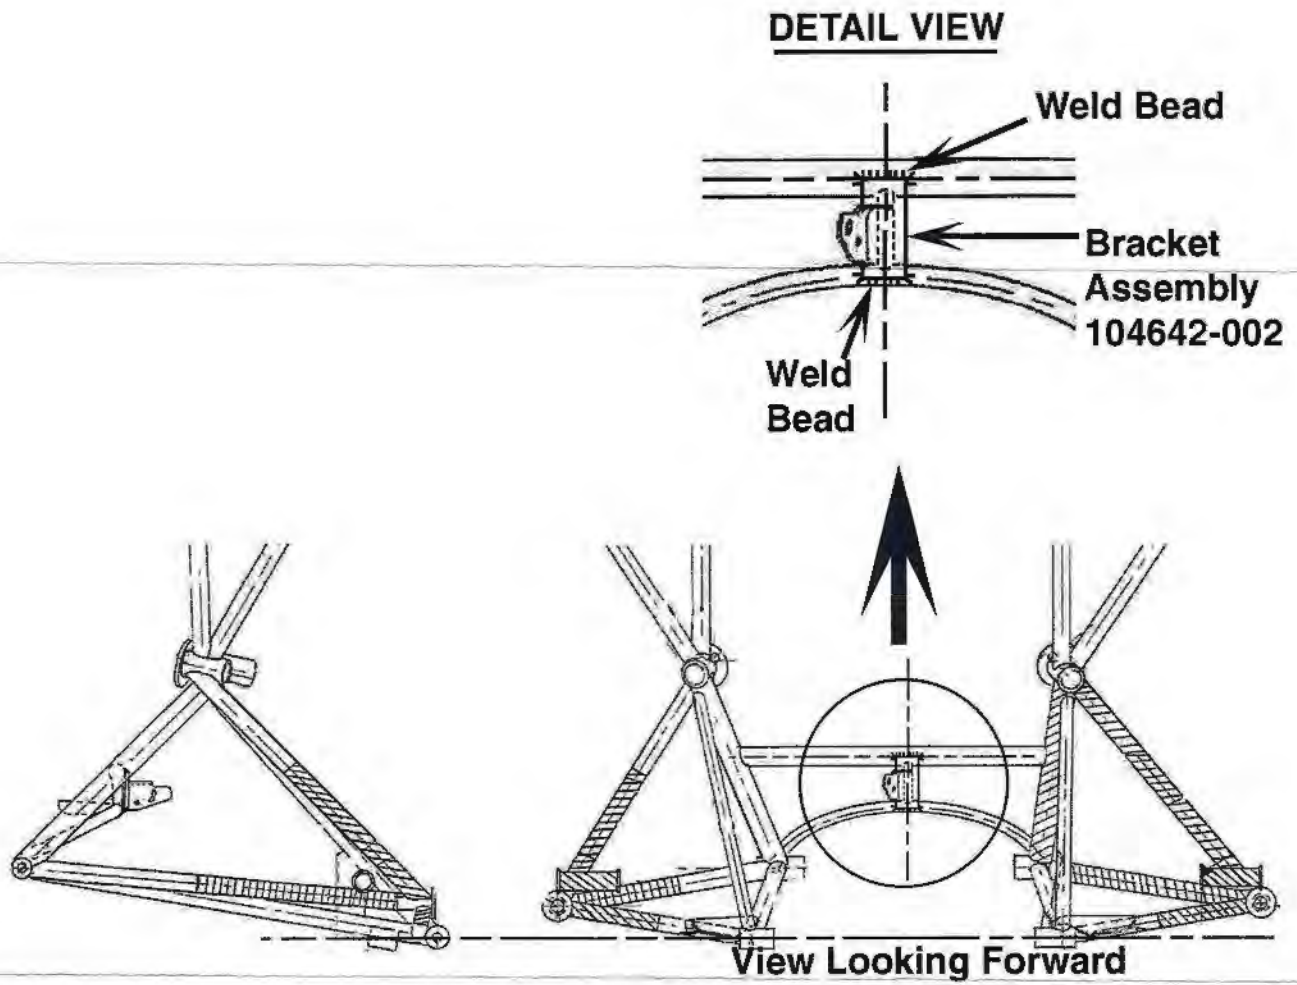

Figure 2
- 1.3 Position the 104642-002 bracket assembly by aligning it on-center with the vertical interconnecting tube and centered between the horizontal tubes, as shown in Figure 2.
- 1.4 Attach the bracket assembly to the engine mount by T.I.G. welding per AC43.13-B along the top and bottom edges of the bracket as shown in Figure 2.